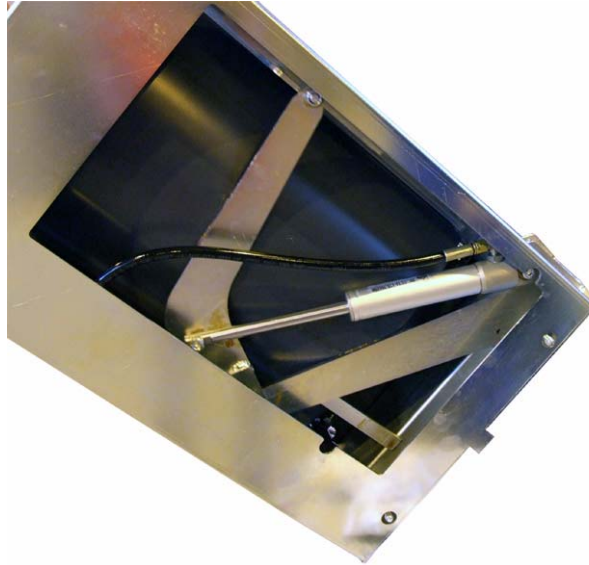

Figure 49: Tilt the can table assy like this so you can vent the hydraulic lift unit.
3. Tilt the can table assy on the pumps side as shown in figure 49.